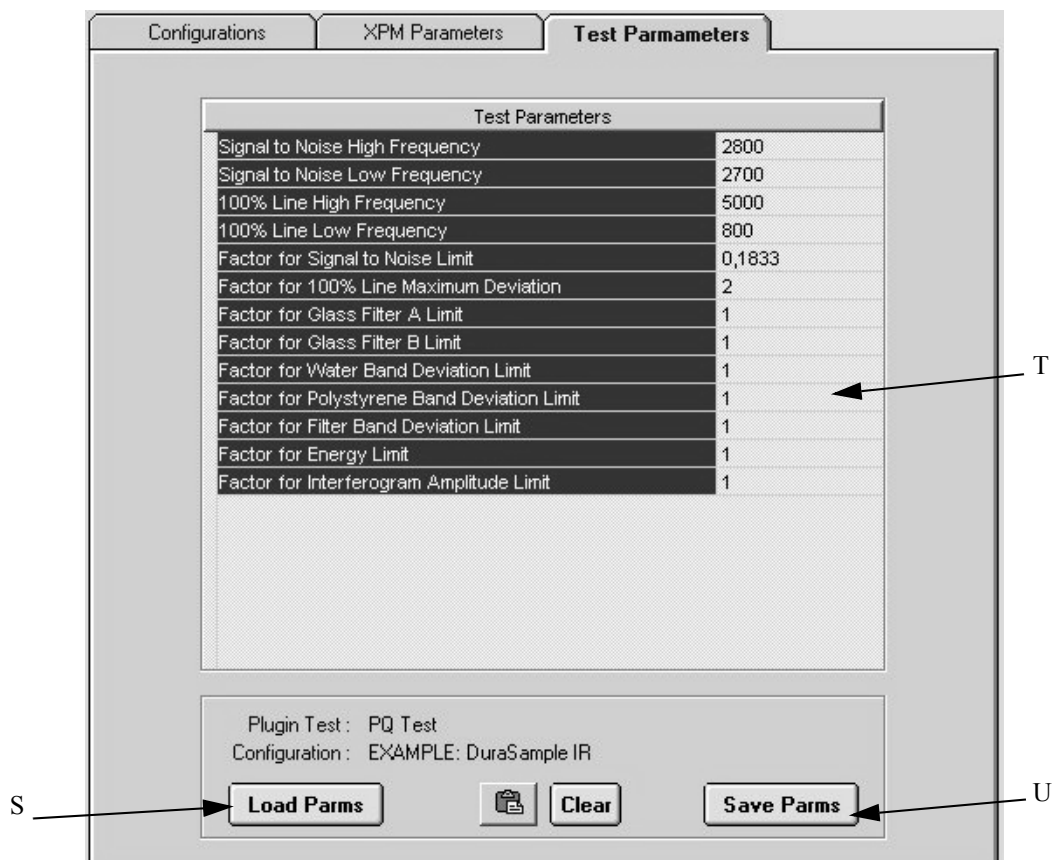

Figure 370: OVP Accessory Manager - Test Parameters tab
- 14) If you want to use the accessory with more than one instrument type click on the *Add new Configuration* button (Q) and repeat steps 9 to 13 for each new instrument type.
- 15) Click on the *Test Parameters* tab which will be empty and has to be activated by clicking on the *Load Params* button (S in figure 370).